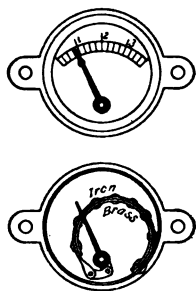

FIG. 10—STOVE
**18. Uses of Thermometers.** Thermometers have many uses in the household other than the common one of indicating the temperature of the air in a room or out of doors. Most up-to-date cooking stoves have metallic thermometers on the oven door to indicate the condition for baking and roasting different articles of food (Fig. 10). A thermometer should be used in the making of candies, if one expects to have the same results each time. The determination of the temperature of a bath should not be left to the feeling of the hand, or even of the elbow. Particularly does this apply to